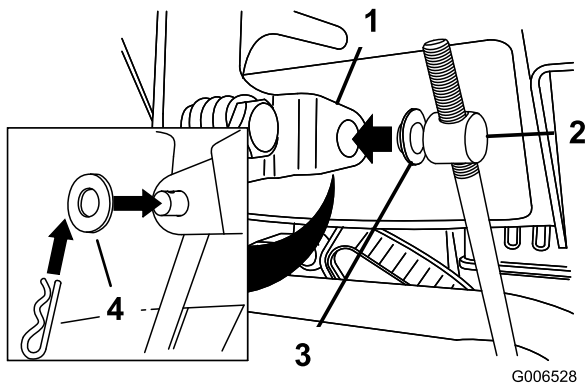

Figure 11
3. Remove the hairpin cotter and the outer washer from the trunnion on the upper end of the speed control rod (Figure 11).
Note: To make installation easier, leave the flat washer on the trunnion (Figure 11).
6. Lift up on the speed control rod and insert the trunnion into the hole in the speed selector lever (Figure 11).
- B. Disconnect the trunnion from the speed selector lever (Figure 11).
- C. Turn the trunnion downward (clockwise) on the speed control rod (Figure 11).
- D. Connect the trunnion to the speed selector lever (Figure 11).